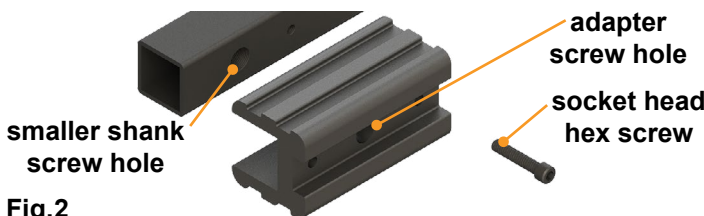

Fig.2
1. Push the supplied aluminum adapter onto the end of the shank and align the smaller threaded Bump-It shank screw hole with the hole in the adapter (Fig.2).